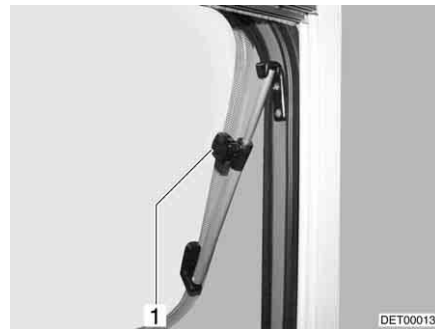

Fig. 48 Hinged window with rotary hinges, open
- Open the hinged window until the required position has been reached and use knurled knob (Fig. 48,1) to secure in position.
- Turn knurled knob (Fig. 48,1) until the latch is released.